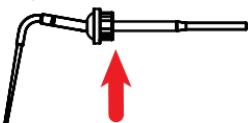
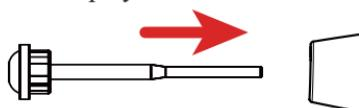

Figure 6 Work Tip
Figure 7 Installation of Work Tip
3. Select the desired work Work Tip and the hexagonal plug on the Work Tip (as indicated by the red arrow in Figure 6). When installing the work Work Tip as shown in Figure 7, you can select the appropriate direction according to the usage to insert the Work Tip into the Heating and Packing Instrument.